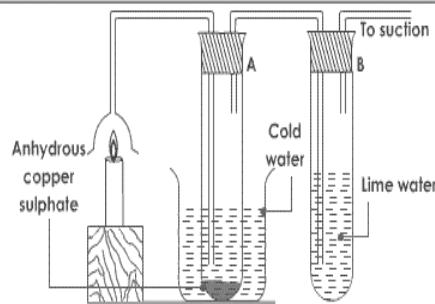

Fig 1.8.5. To prove that carbon dioxide and water are formed when candle wax burns
1. Set the apparatus as shown below in the figure 1.8.5.
3. Add a few solid powders of anhydrous copper (II) sulphate into tube A, after the experiment. Make your observation.